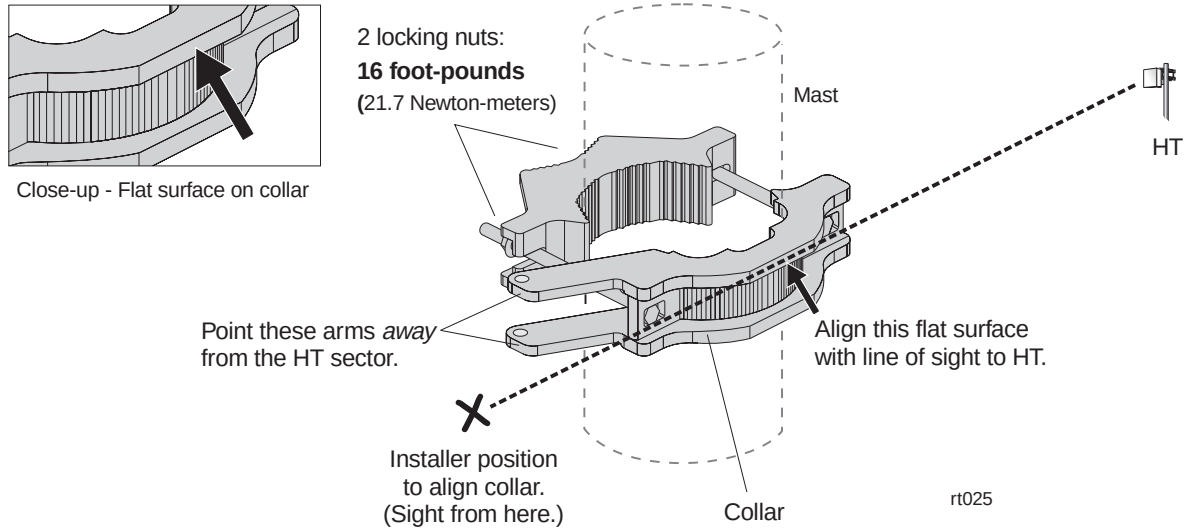

Figure 6-7 Aligning the temporary installation collar
3. Align the collar with respect to the target HT as shown in figure 6-7.